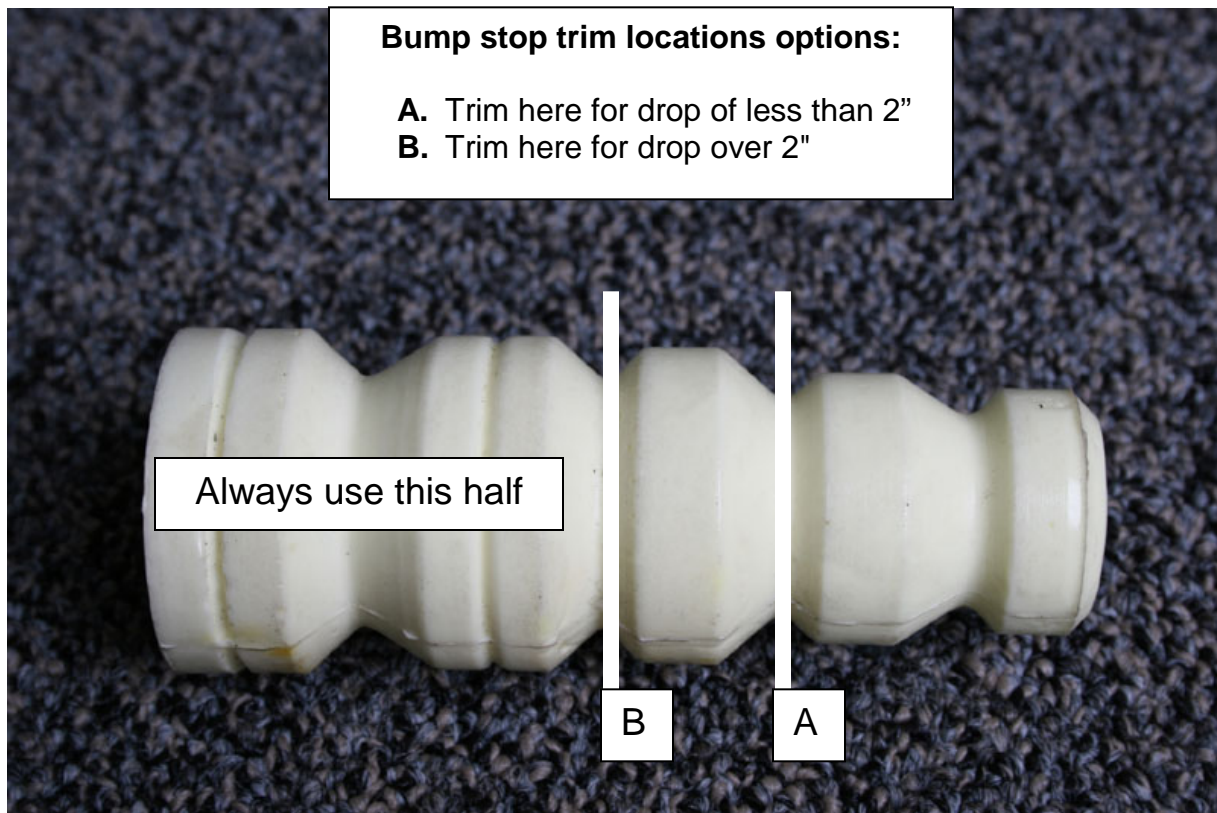

Figure 3
6. Trim the bump stop that comes with the kit and use only the top part when assembling. (Figure 3)
17. Trim the bump stop that comes with the kit and use only the top part when assembling. (Figure 3)